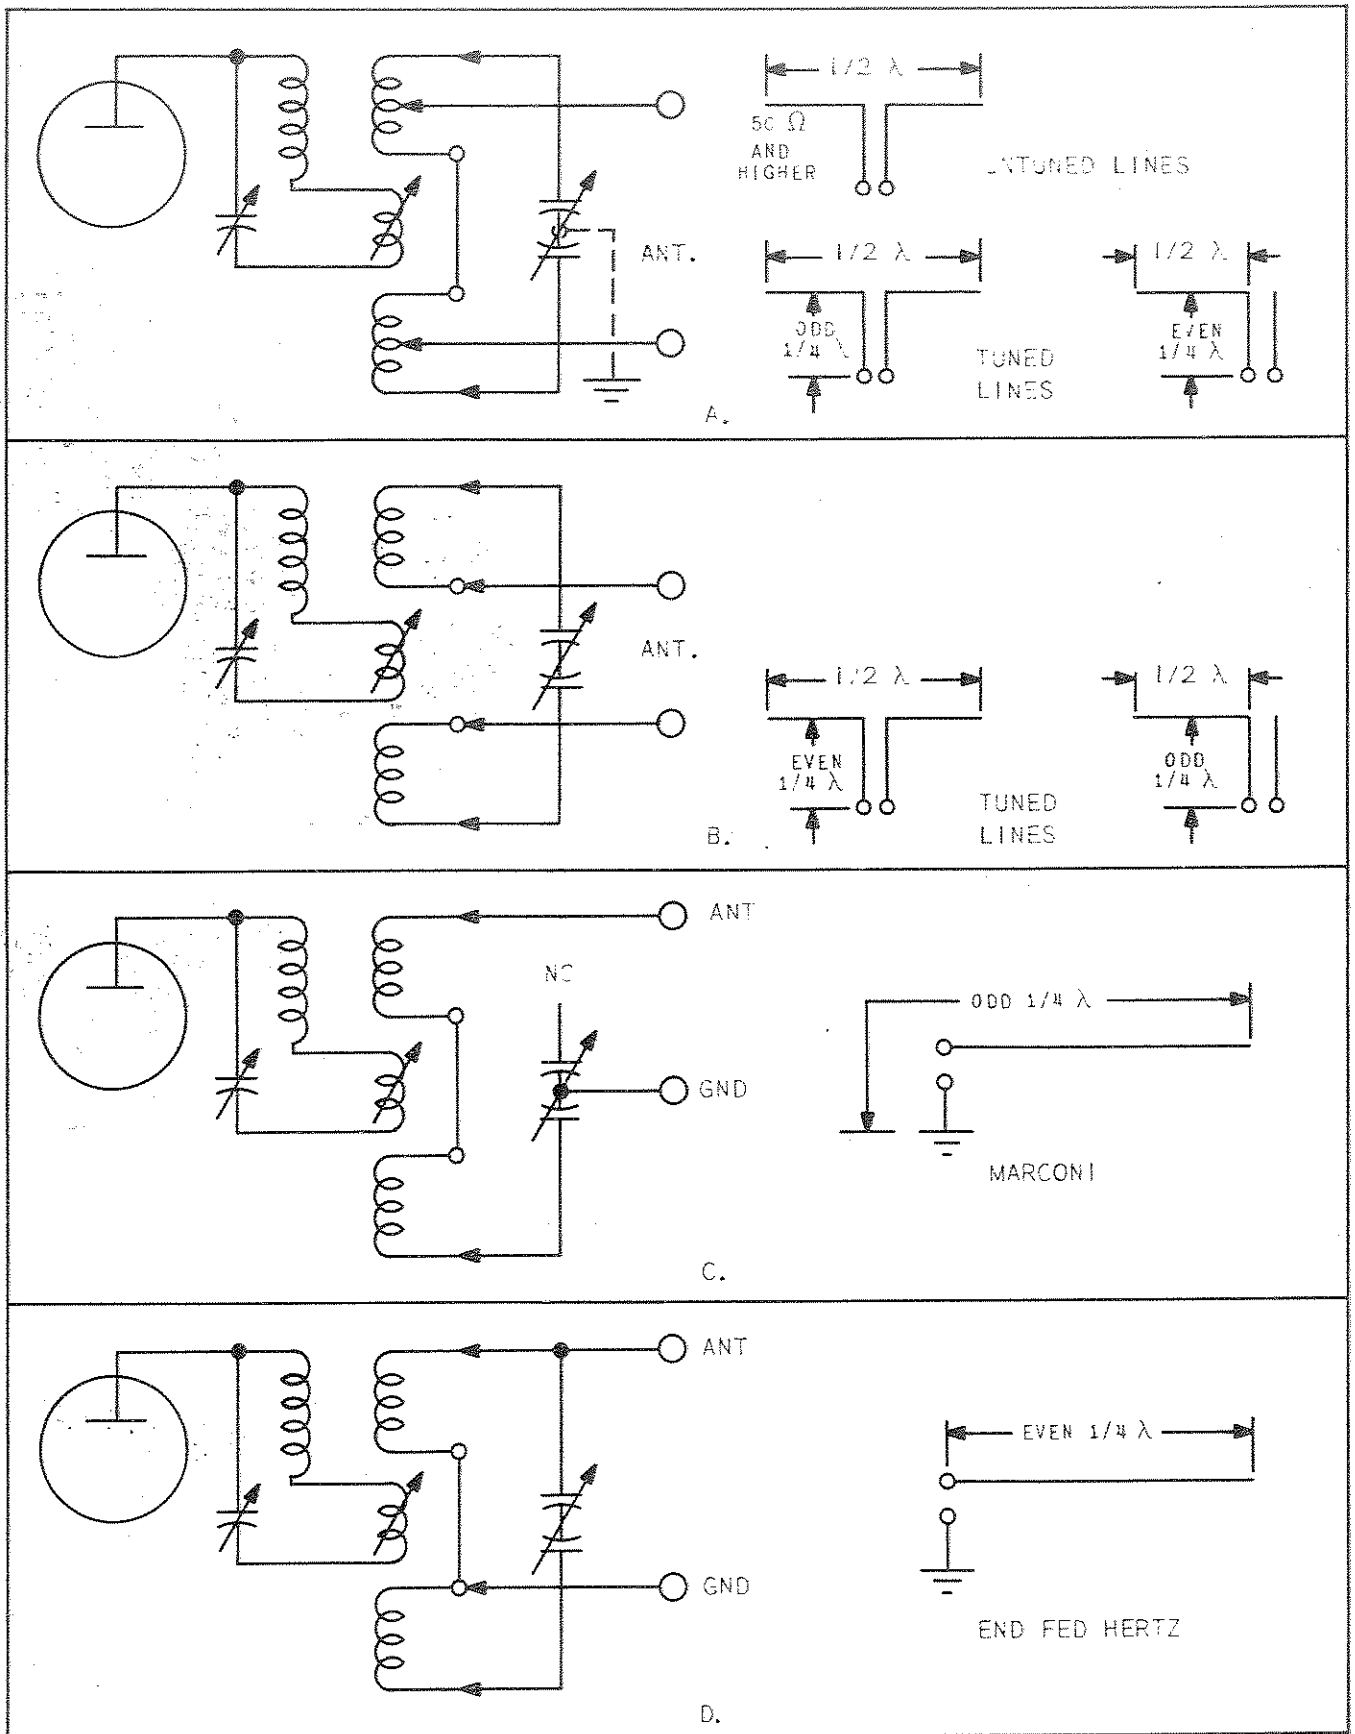

Figure 3-3 Applicable Antenna Tuning Circuits
2.2.6. Antenna Termination. - Refer to figure 3-3. The antenna tuning unit incorporated in the 30K transmitter is a condenser - coil combination which can be conveniently changed from a series to a parallel tuned circuit. The inductance of the coil and the place of antenna feeder attachment can be changed at will, with the result that practically any type of antenna or antenna feeders can be employed. In order to cover the entire frequency range of the transmitter, two sets of plug-in coils are used. One set covers the 10, 11, 15 and 20 meter bands while the other set is used on the 40 and 80 meter bands. The coil units plug into a jack strip mounted on top of the antenna tuning condenser. The antenna coils are split and a moveable link inserted between the sections. This link is actually a continuation of the power amplifier plate tank coil. The connection between the two sections of the antenna coil is actually a small jumper which, when opened, places the antenna tuning capacitor in series with the antenna coil thus making it possible to tune extremely low impedance antennas or transmission lines. When this jumper is closed, the tuning capacitor is in parallel with the coil and high impedance antennas and transmission lines can then be tuned.
(b) Installation of Units. - Reference to the photographic illustrations will assist in the assembly of the transmitter. See figure 3-3. Any cords designed to hold the cable in place for shipment should be untied and removed. Place the heavy plate power transformer onto the bottom of the cabinet and make the connections indicated by the white tags tied to the cable lugs. After this, the power transformer may be placed over the mounting holes and bolted into place if desired. Proceed with the placement of units from the bottom to the top. The tabulation below lists the various units of the transmitter. For purposes of identification the unit letter designation which appears on schematic diagram is also shown: